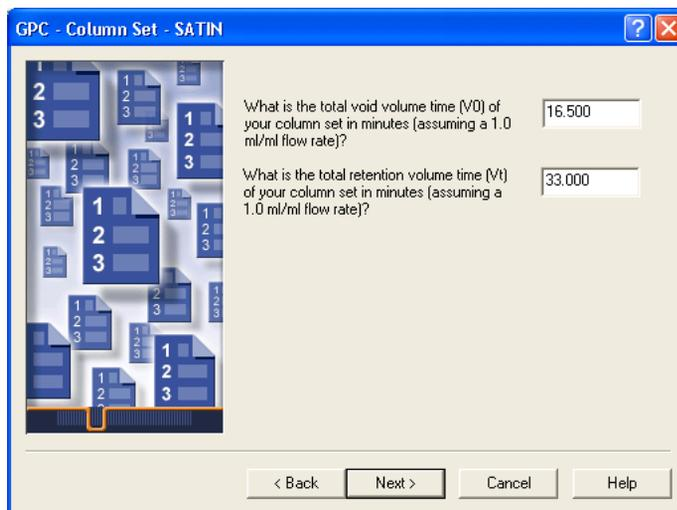

Figure 3-11 Setting V_0 and V_t Values
11. Click **Next** to go to the GPC–Column Set page (Figure 3-11). This page allows you to enter values for V_0 and V_t .